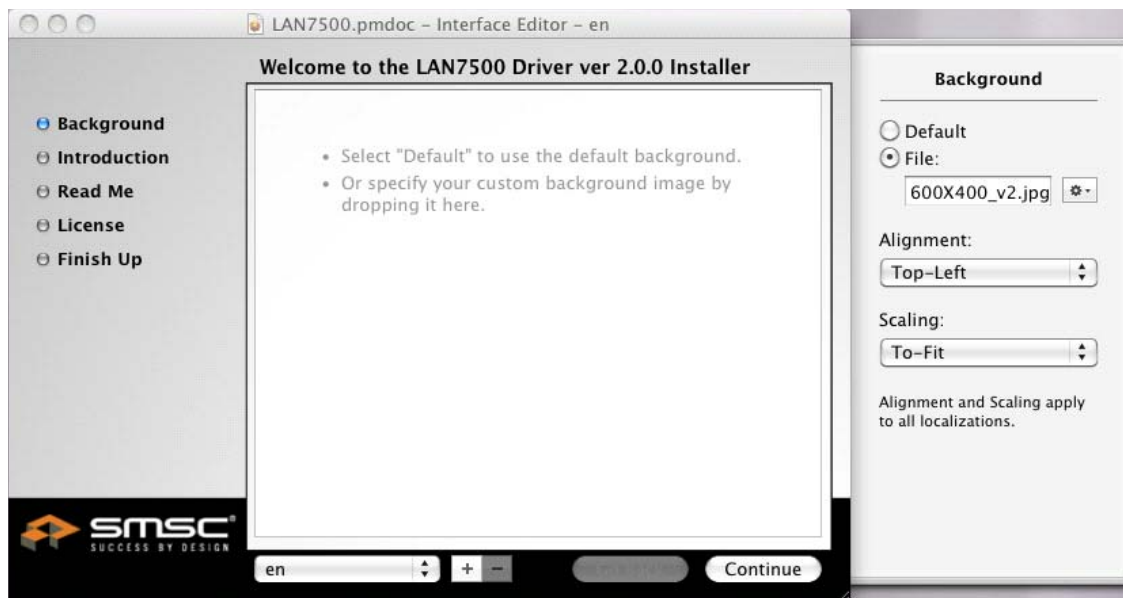
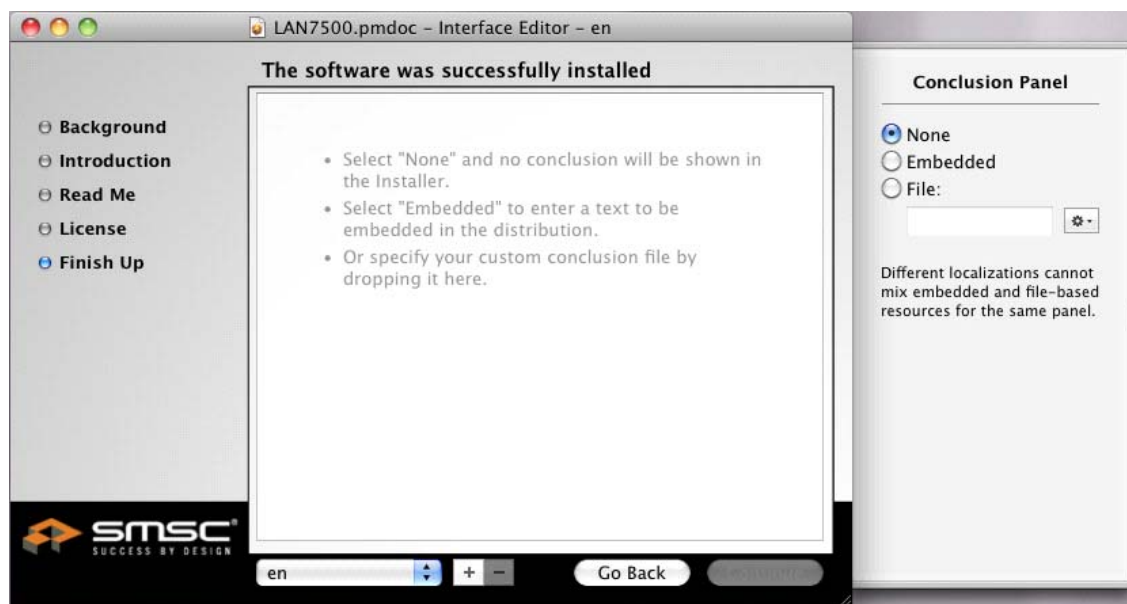

Figure 8.4 Selecting Background Image
Figure 8.8 Selecting Conclusion File
6. Follow the on-screen prompts to configure the background image, introduction (welcome message), read me, license, and conclusion, as shown in Figure 8.4 through Figure 8.8.